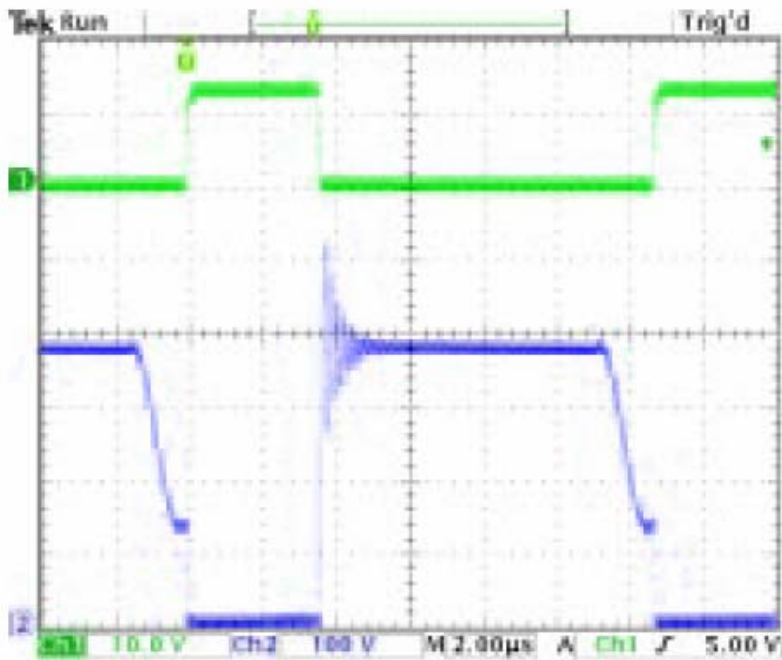

Figure 4. Gate Driver and Drain Voltage at Full Load.
3.3 Increase load current to 2.0 A. Gate driver and drain voltage should be as in Figure 4. Verify that output voltage is 12.0 V  $\pm$ 1%. Input current should not exceed 200 mA.